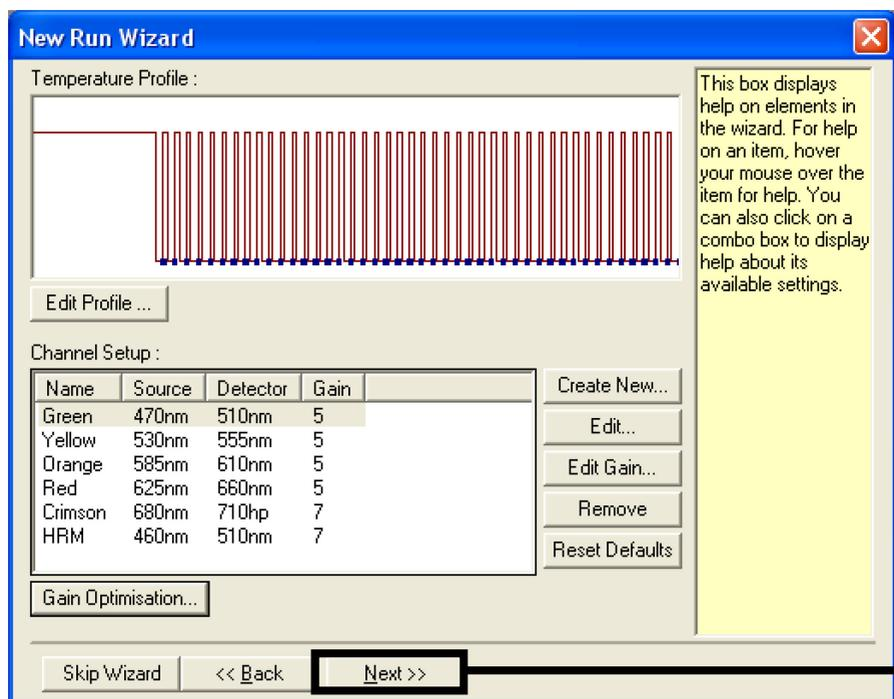

Figure 7. The “New Run Wizard” dialog box and temperature editing screen. 1 = “Next.”
13. This next window allows editing of the temperature profile. No editing is required as the temperature profile has been created according to the instructions in the “Protocol: Creating a temperature profile,” page 32. Click “Next” (Figure 7).